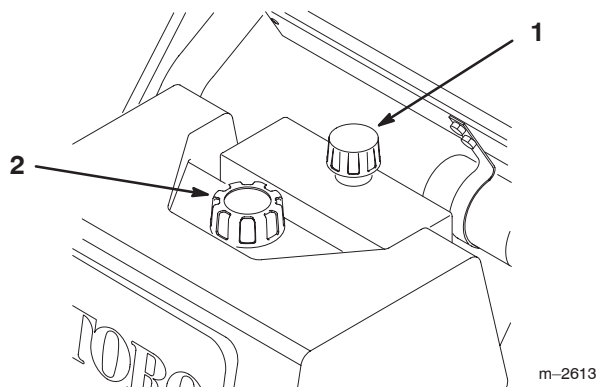

Figure 29
2. Clean area around filler neck and cap/dipstick of hydraulic tank (Fig. 29).